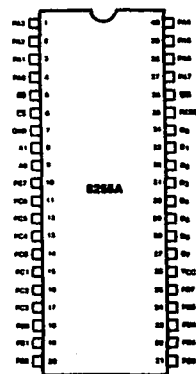

Figure 2. Pin Configuration
5. Measured with a load as shown in Figure 2.
OUTPUT LOAD Figure 2